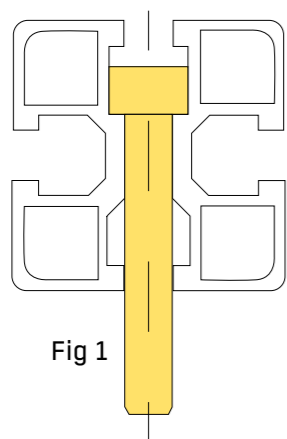

Fig 1
- Tapping in the core of the profile (Fig. 1)